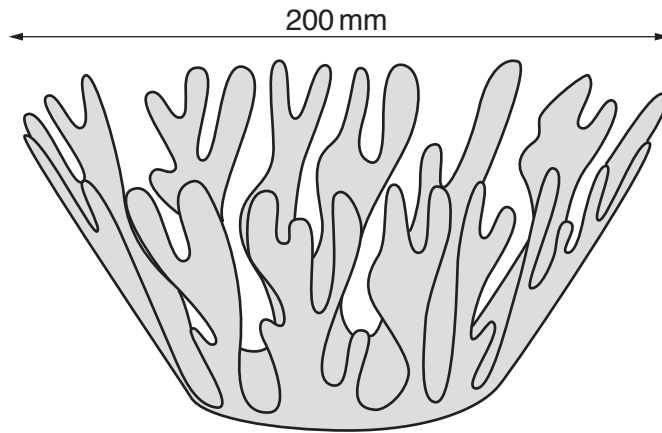

Fig. 8
14 Fig. 8 shows a prototype design for a decorative bowl to hold fruit.
- (e) For either acrylic or aluminium sheet, use sketches and notes to show how the flat shape could be formed into the bowl shape shown in Fig. 8, after it has been cut out. [7]